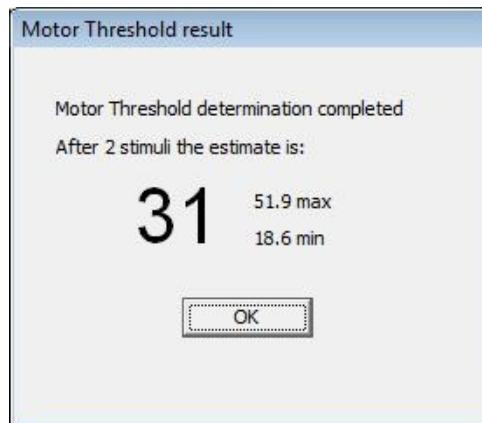

Fig. 100. Motor Threshold result -dialog
7. When the MT determination process ends, the **Motor Threshold result** -dialog is displayed (see Figure 100).